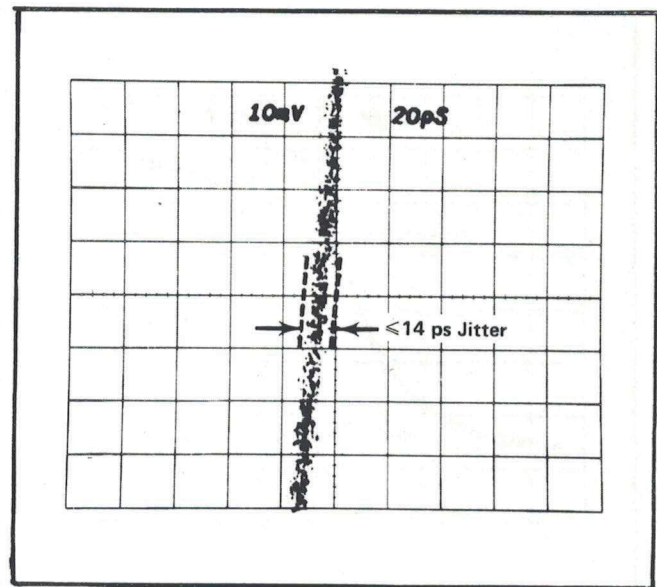

Fig. 5-4. Typical waveform to observe jitter in step 6.
h. Determine the displayed jitter by observing 90% of the dot density on the rising portion. See Fig. 5-4.
- Use the DC Offset and the Time Distance knob to center the middle portion of the PULSE OUTPUT leading edge on the CRT. See Fig. 5-4 for a similar display.